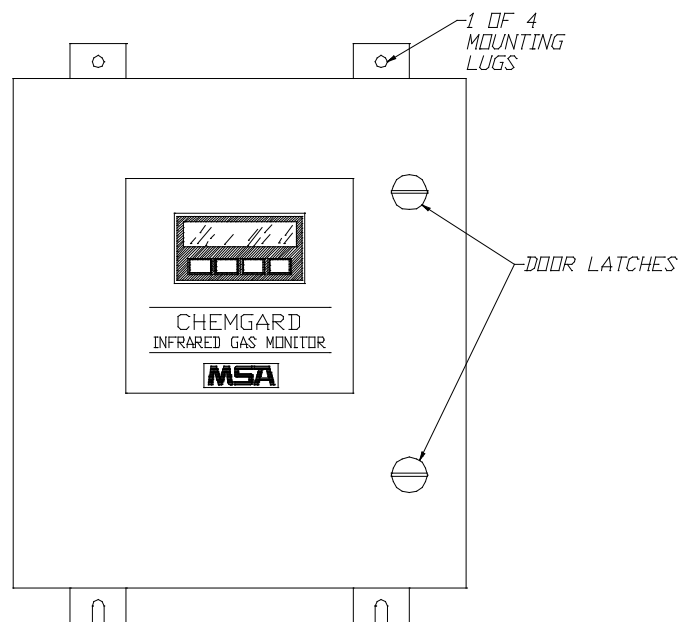

Figure 2-1. Front Door Latches
3. Using a screwdriver, loosen the two latches on the Chemgard door (FIGURE 2-1) by turning 1/4 turn counterclockwise.
The instrument has four mounting lugs (FIGURE 2-1). Securely mount the unit to a wall or support, using appropriate hardware.
1. Using a screwdriver, loosen the two latches on the enclosure door (FIGURE 2-1).